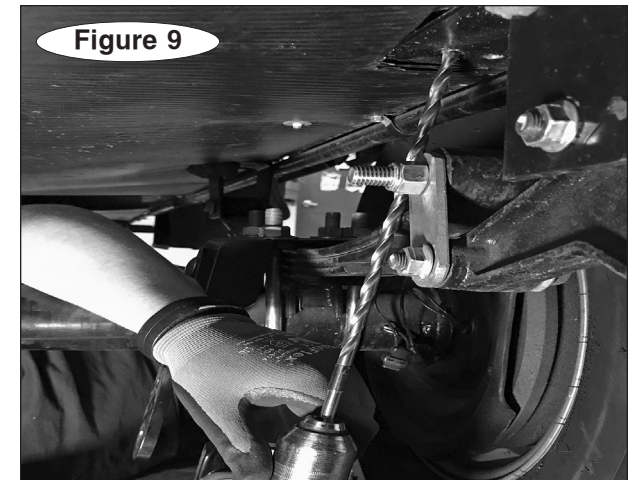

Figure 9
11. Use a 5/16” drill bit that is 12” long to drill through the punched holes and the frame (Figure 9).